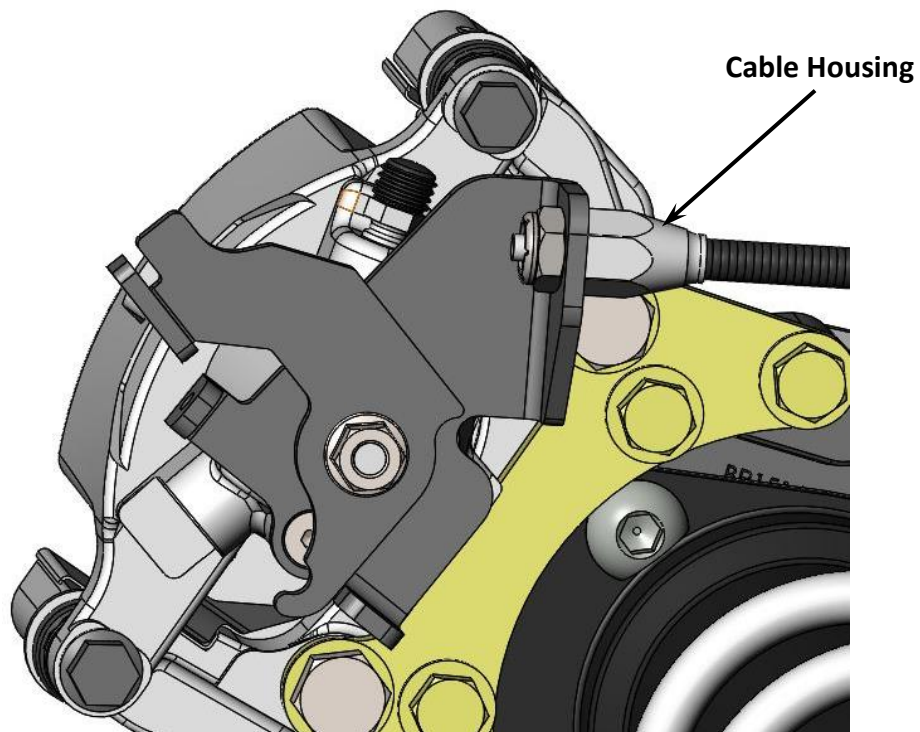

Figure 1 – Cable Attachment
2. Insert the threaded end of the cable into the bracket on the rear caliper. **NOTE:** Due to inconsistency in the caliper cable brackets, it may be necessary to enlarge the hole in the bracket slightly. This will allow the aluminum nut to set flush with the bracket. Install the provided nut. It is not necessary to tighten completely at this point. See Figure 1 below for reference.